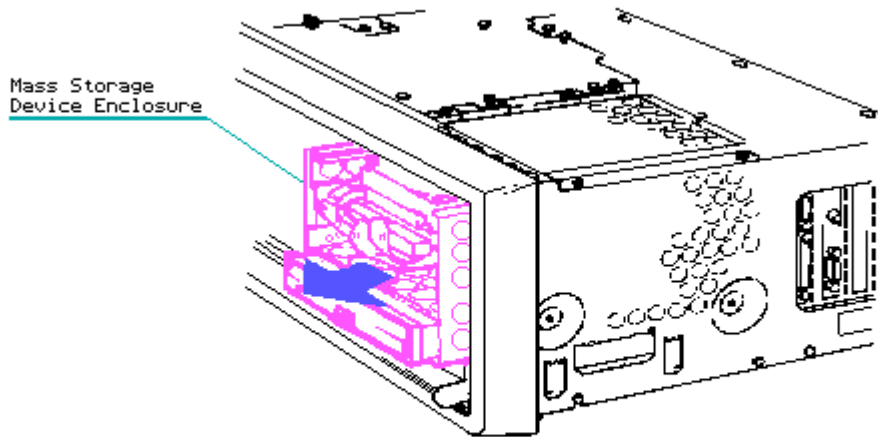

Figure 7-56. Accessing the Diskette Drive and Fixed Disk Drive Power Cable
5. Slide the mass storage device subassembly enclosure forward a few inches by reaching into the open system chassis area and pushing the enclosure forward. This action will expose the mass storage power cables (Figure 7-56).